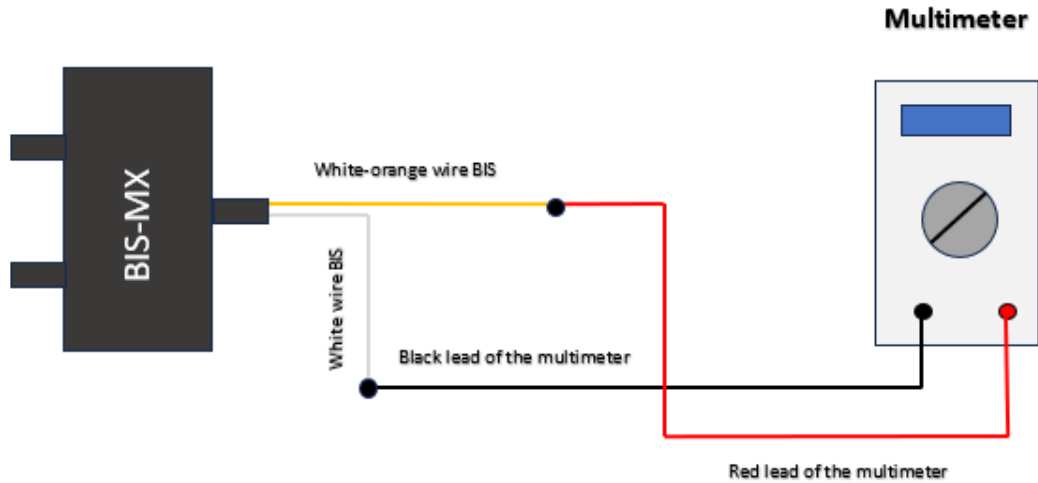

Fig. 4 Connection Diagram
2. Assemble the connection circuit according to “Fig. 4 Connection Diagram”.